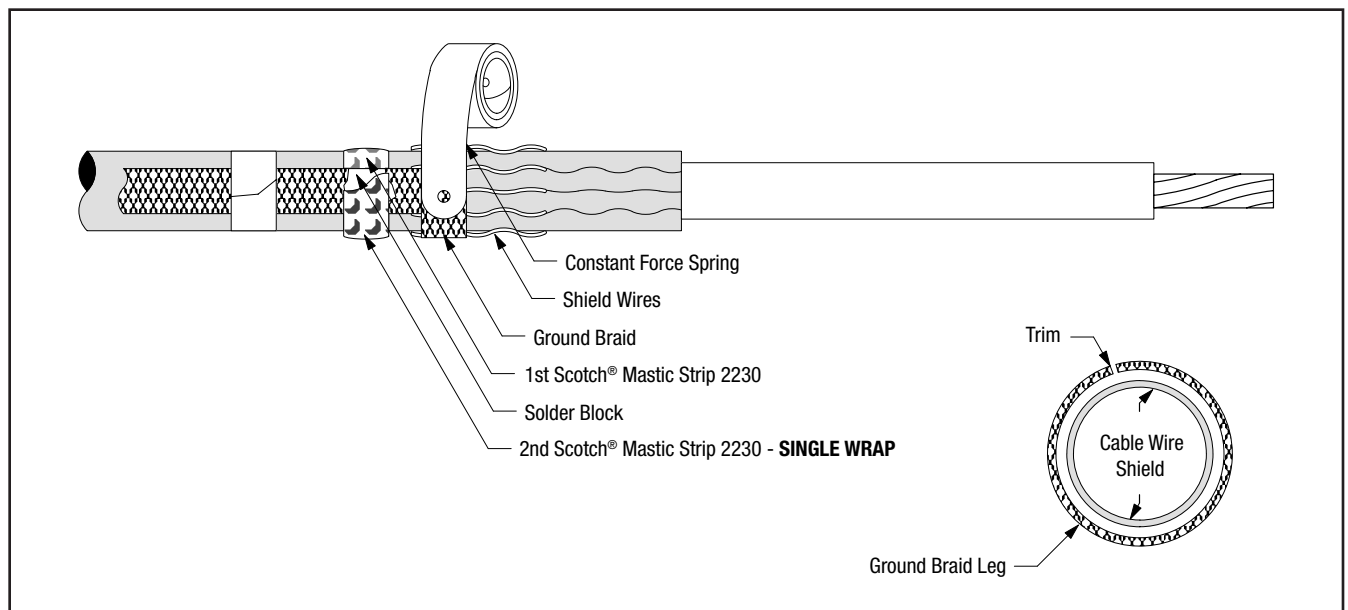

Figure 23
- 13.3 Wrap ground braid around cable shield wires one complete wrap, trim excess at approximately a 45 degree angle, and line up with the pre-bent 45 degree angle already on the ground braid, to prevent overlap. Secure in place with constant force spring. Wrap spring in same direction as ground braid (Figure 23). Cinch (tighten) the spring after wrapping the final winding..
- 13.4 Select second Scotch® Mastic Strip 2230 from kit and remove white release liners. Apply a second **SINGLE WRAP** of mastic over solder block on ground braid and previously applied mastic (Figure 23). Cut off excess.